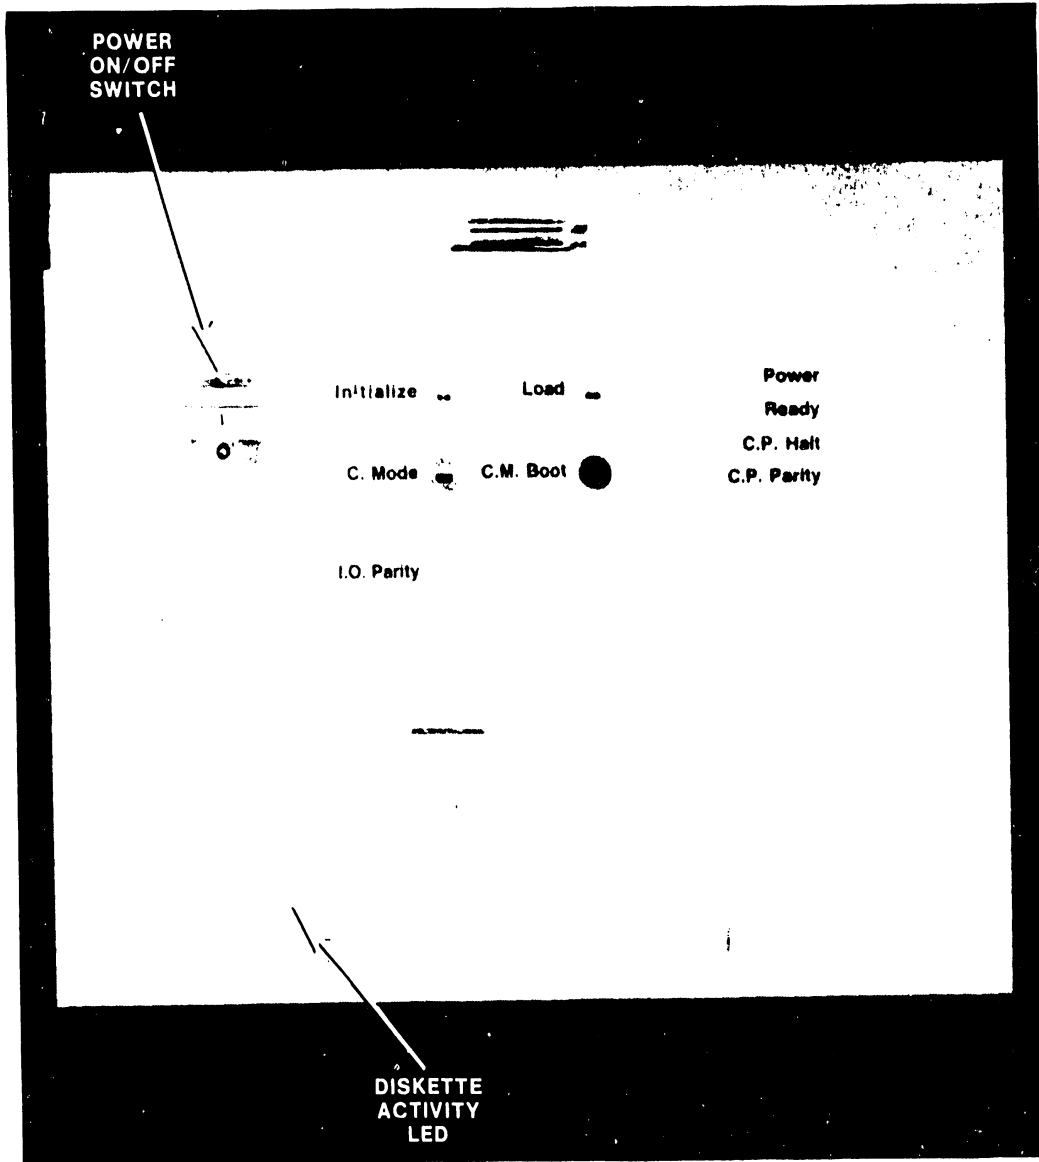

Figure 4-12A. VS-85 Display Panel Controls and Indicators
2. To load the microcode into Control Memory, insert the microcode diskette into the mini-diskette drive, close the drive door, and press the C.M. Boot button on the Display Panel (see figures 4-12A and 4-12B).